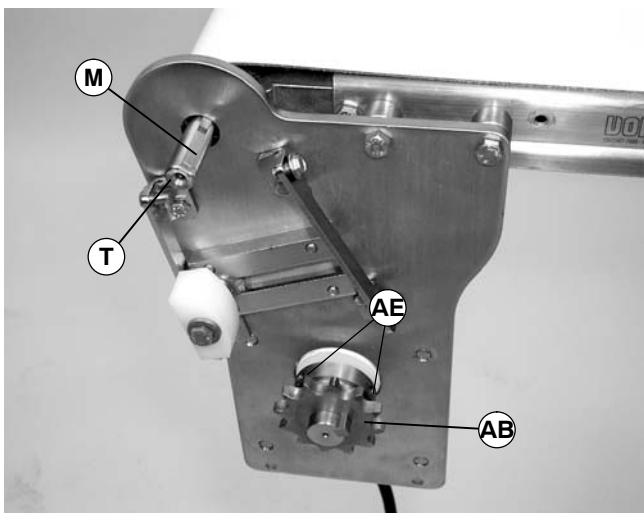

Figure 11
**NOTE:** Figures 11 through 15 show timing chain installation on a 7200 Series conveyor. Installation on a 7300 Series conveyor is similar.
4. Install key (M of Figure 11) on drive spindle (AE).
**NOTE:** Depending on sprocket sizes, it may be necessary to remove drive sprocket (AB of Figure 11) by loosen two set screws (AE) to install chain and sprockets.